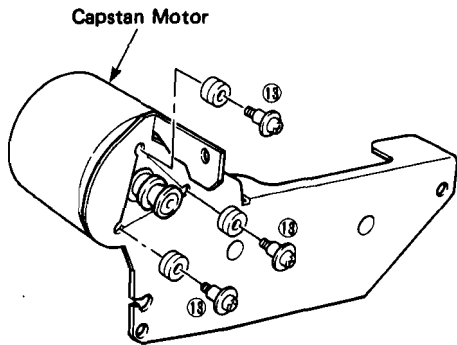

Fig. 8
- b. Remove 3 screws (13) in fig. 8, then replace the capstan motor.